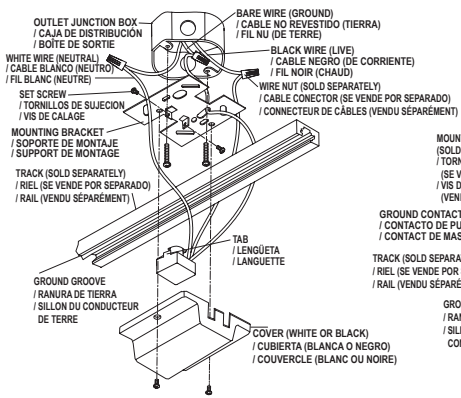

FIGURE 1 / FIGURA 1 - LTFC, LTNFC
INSTALLATION OF POWER FEED (FIGURE 1 - FIGURE 4)
- LTFC, LTNFC Models Only (Figure 1):**
INSTALLATION DE L'ALIMENTATION ÉLECTRIQUE (FIGURE 1 - FIGURE 4)
- Modèles LTFC, LTNFC uniquement (Figure 1) :**